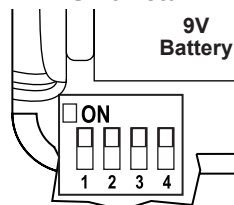

Figure 2
- **C20 Transmitter:** remove battery cover. Press firmly below arrow and slide battery cover off. Slide code switches to your choice of up or down position. Factory setting is all up. Do not use this position. With a small screwdriver or ball point pen slide firmly up or down (Figure 2).